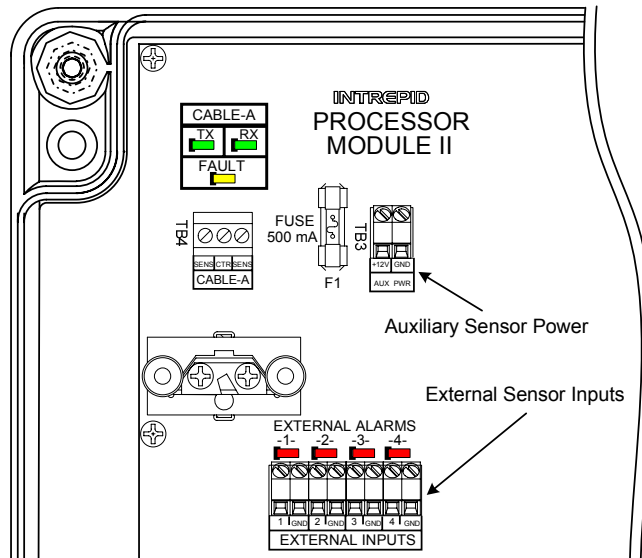

Figure 5.11 – Auxiliary Sensor Connections
There are four (4) auxiliary inputs on the PM II for bringing in alarm and tamper contacts from auxiliary devices such as microwave sensors, IR sensors and gate contacts. There is also a 12 VDC 150mA terminal to provide power, if necessary, to these auxiliary devices. These terminals are shown in Figure 5.11.